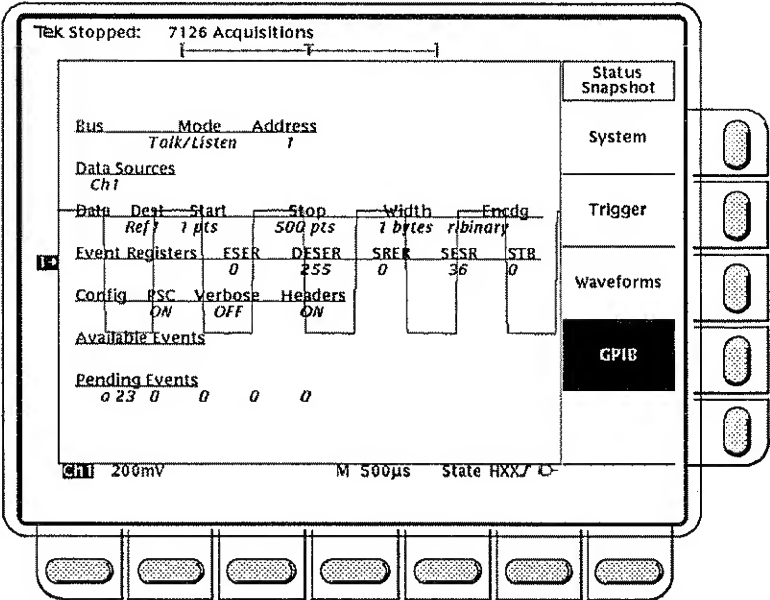

Figure 3-66: Status Menu – GPIB
- ☐ **Step 5:** Select **GPIB** from the menu to display information about the GPIB system (Figure 3-66).